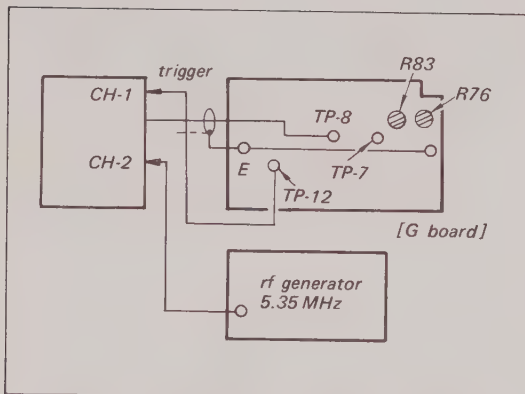

Fig. 8-23. Peak-white frequency adjustment test setup
11. Connect the CH-1 probe of the scope to TP-8. See Fig. 8-23.